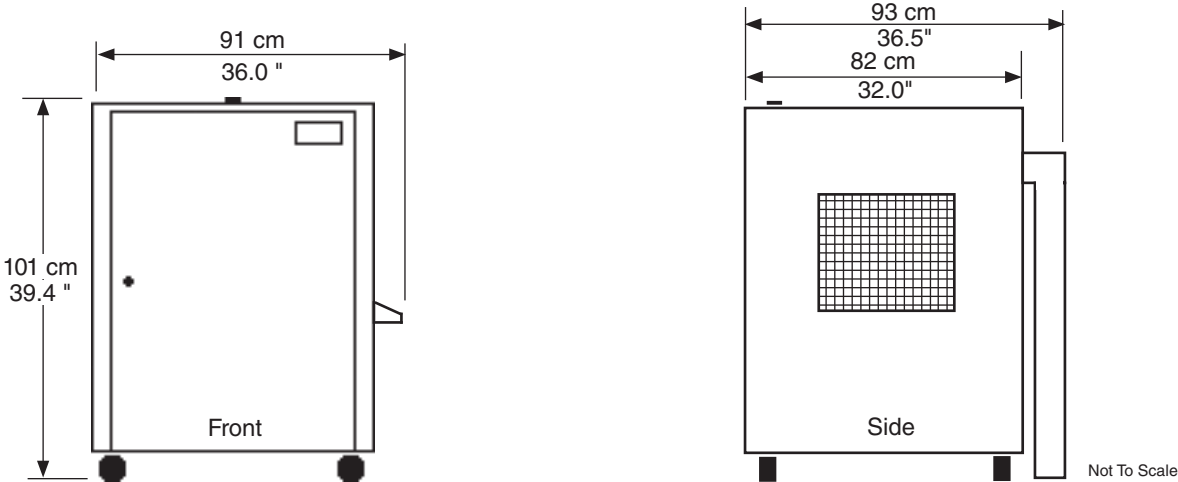

Figure 6.1c: Q-FOG Air Preconditioner external dimensions.
- Figure 6.1c shows the external dimensions of the Air Preconditioner.